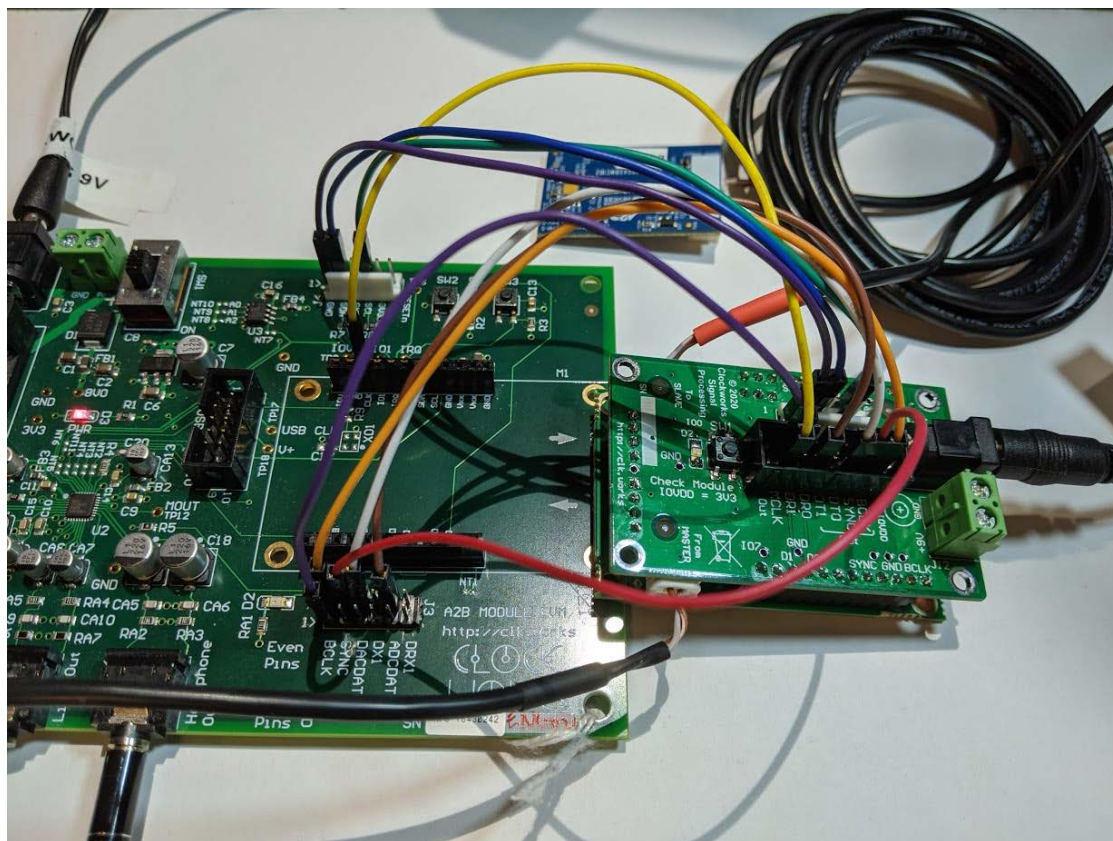

Figure 19 Detail of I²C and I²S connections between AB0106 and Clockworks 1761 EVM board
Figure 19 shows a closer look at the jumpers used between the two boards. Connections are made as follows.
- AB0106 I²S header MCLK -> EVM A connector pin 3 (CLK) (yellow wire in Figure 19)